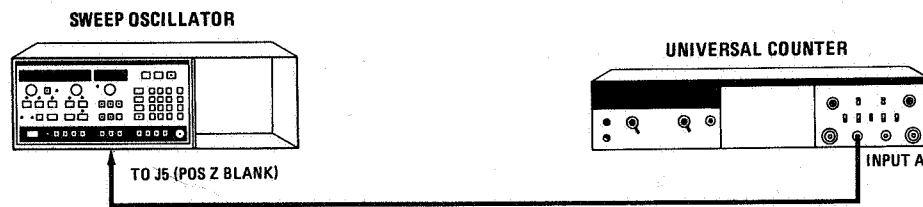

Figure 5-8. Sweep Time Adjustments Setup.
4. Position the sweep oscillator upright as shown in Figure 5-8 and remove the top cover.